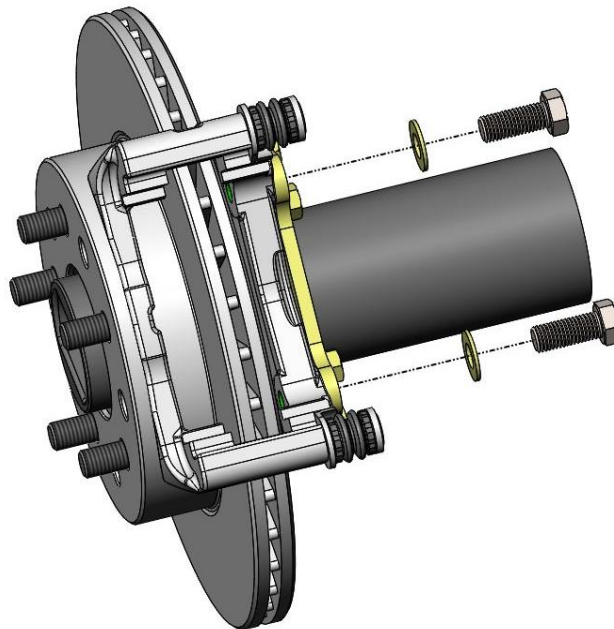

Figure 5 – Caliper Anchor Installed
- Remove the Caliper Anchor Bracket from the caliper along with the brake pads. Install the Caliper Anchor Bracket over the rotor and position against the Secondary Caliper Mounting Bracket. Use the provided M12 Flat Washers and M12-1.75 x 30mm Hex Head Bolts and torque the bolts to 80 lb/ft. See Figure 5 below for reference.